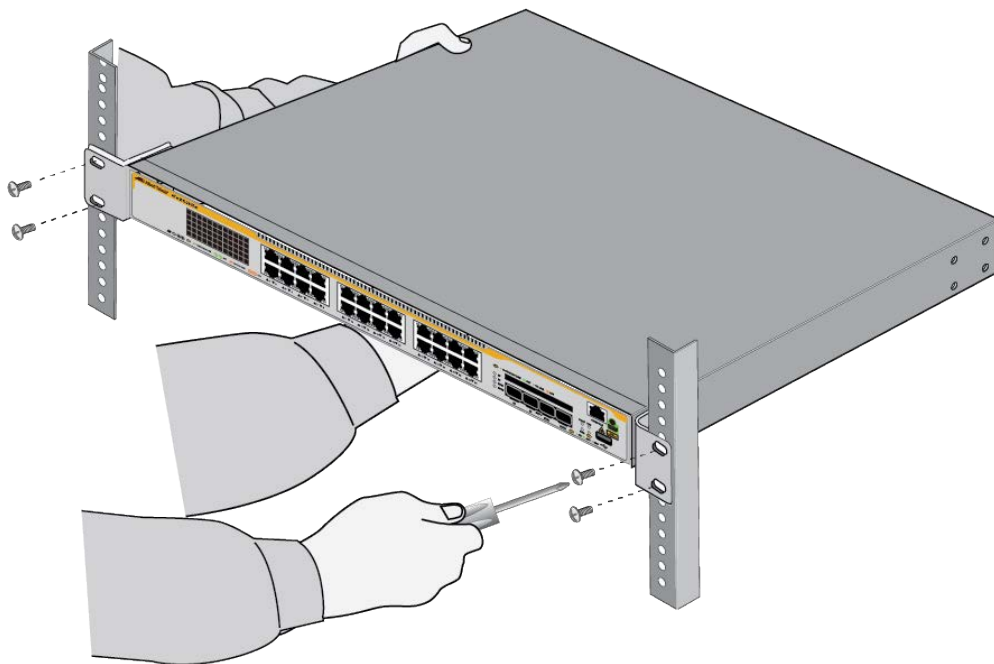

Figure 42. Installing the Switch in an Equipment Rack
7. While having another person hold the switch at the desired location in the equipment rack, secure the switch unit using four standard equipment rack screws (not provided). See Figure 42 on page 74.
6. Have another person hold the switch in the equipment rack while you secure it using standard equipment rack screws (not provided). See Figure 42 on page 74.